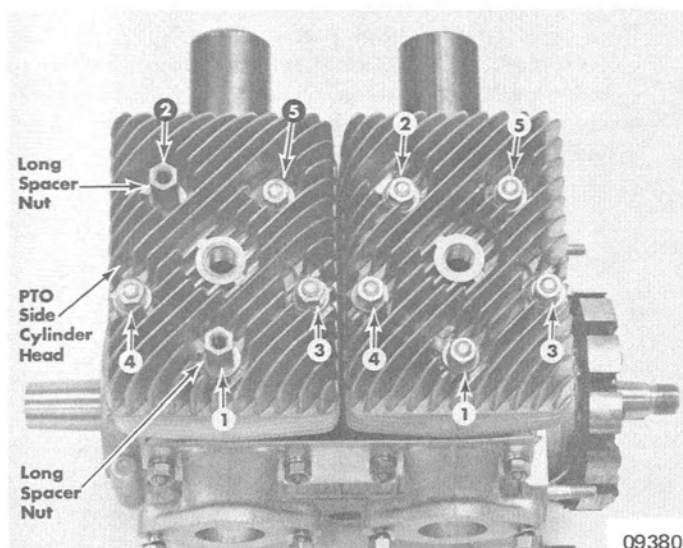

Figure 9. Cylinder Head Torquing Sequence
10. Set cylinder heads on cylinder studs and secure with flat washers, lockwashers and nuts. Tighten nuts evenly (following sequence shown in Figure 9) until specified torque is reached.
NOTE: Be sure that 2 long spacer nuts are installed on correct studs of PTO side cylinder. (Figure 9) Spacer nuts are used to secure air shroud to engine.